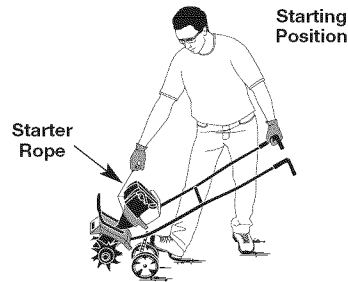

Fig. 10
WARNING: Avoid accidental starting. Make sure to be in the starting position when pulling the starter rope (Fig. 10). To avoid serious injury, the operator and unit must be in a stable position while starting.
4. Hold the handlebar with one hand and grab the starter rope with the other hand, **do not squeeze the throttle control** (Fig. 10). Using one foot to hold down the cultivator, pull the starter rope 5 times.